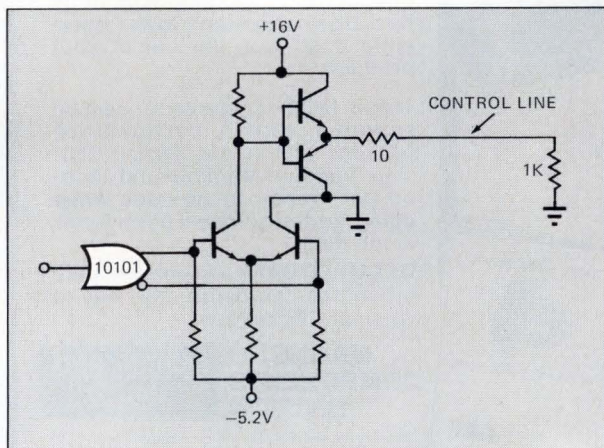

Fig. 9—Output translators use 1k pull down resistors to reduce cross talk and ground current noise.
- Emitter-follower output-type translators (Fig. 7) should have a pulldown resistance (typically $1\text{ k}\Omega$) to ground at the end of the line (Fig. 9). □